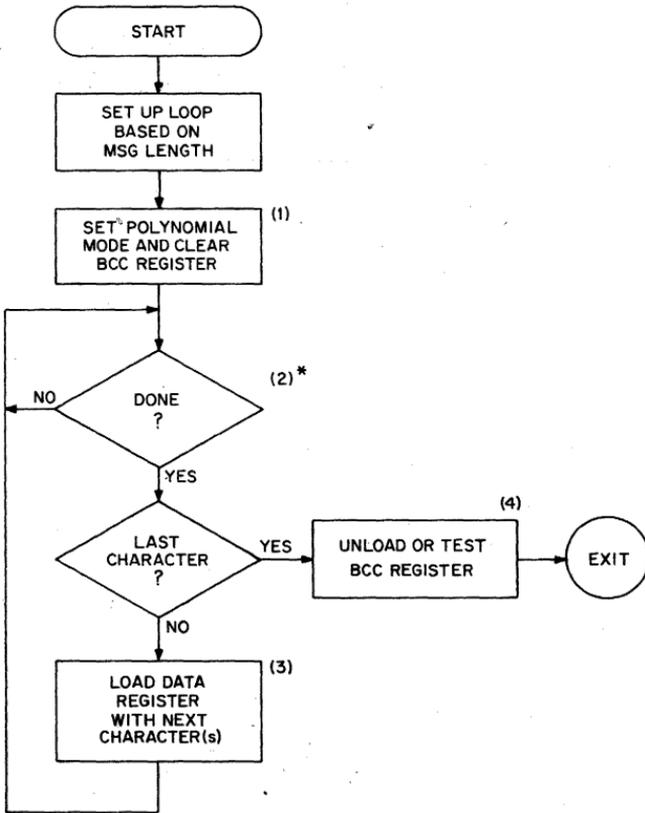

Figure 1
Figure 1 is a flow chart of the recommended practice (complete BCC). The numbers in parenthesis represent the KG11-A operations.
### Initialize KG11-A ((1) in Figure 1)
The purpose of this indicator is to tell the KG11-A if the data register will be loaded each time with a word (16 bits) or a byte (8 bits). Bit 3 (DDB) selects word (DDB = 1) or byte (DDB = 0). Even if characters are being accumulated, the program loop (Figure 1) is shorter if the characters can be presented two-at-a-time (WORD option).
## Test for KG11-A Completion ((2) in Figure 1)
## Load Data Register With Next Character(s) ((3) in Figure 1)
## Unload BCC Register ((4) in Figure 1)